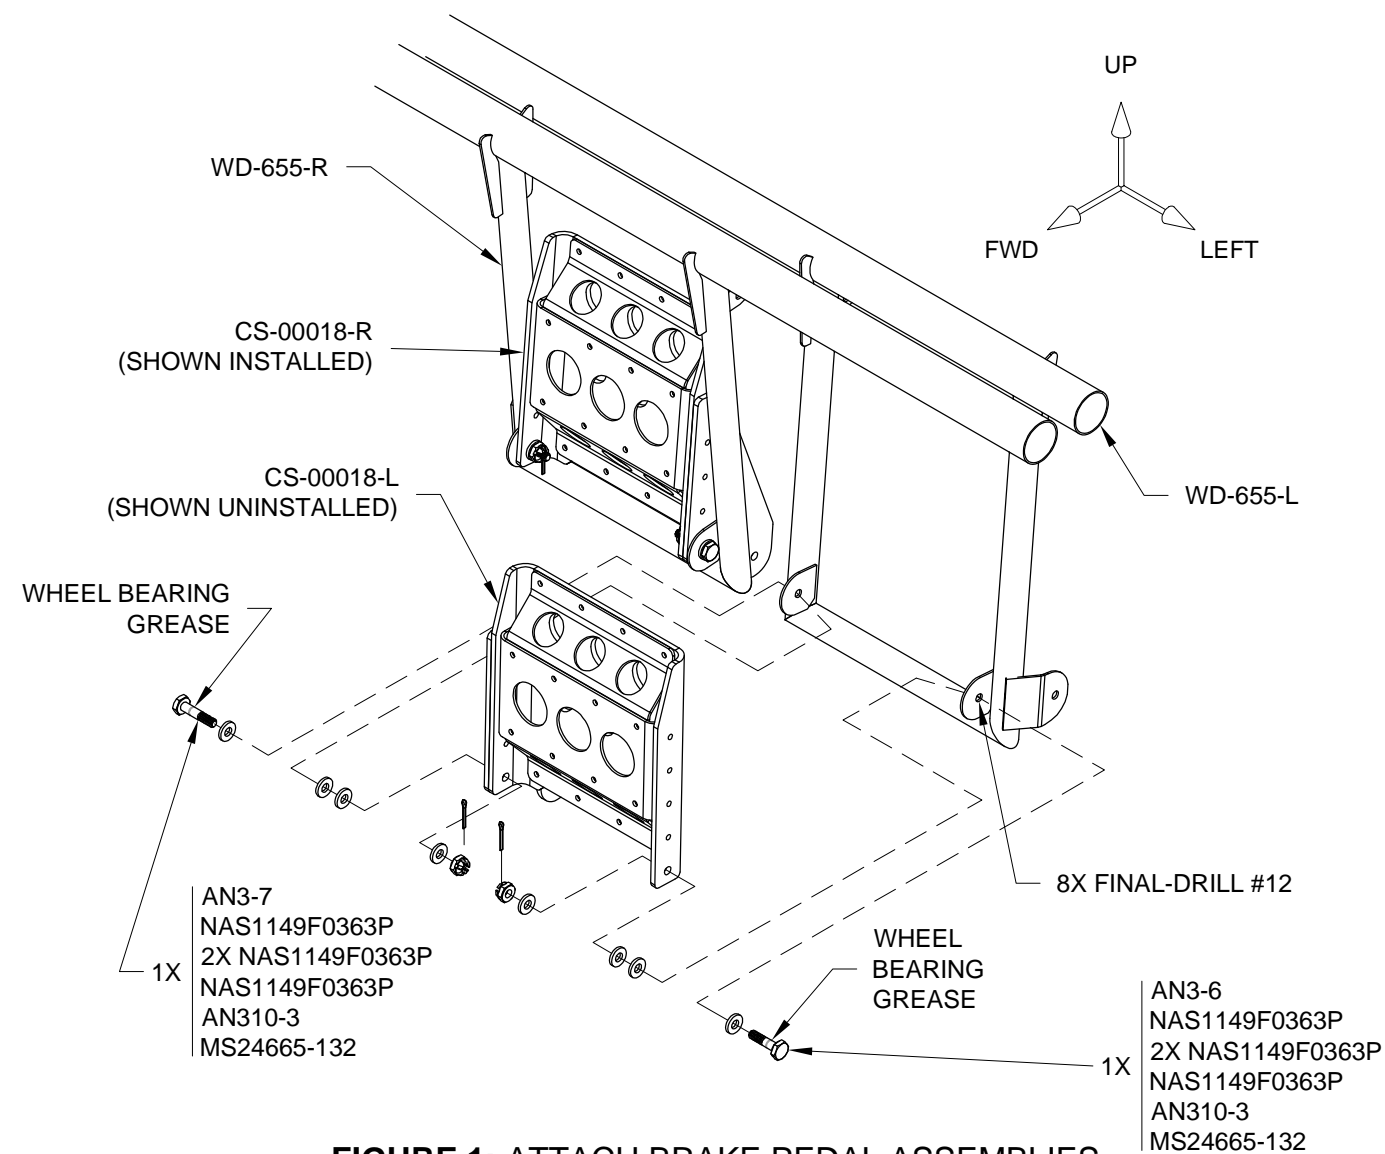

FIGURE 1: ATTACH BRAKE PEDAL ASSEMBLIES
Step 3: Attach the four CS-00018-L & -R Left and Right Brake Pedal Assemblies to the WD-655-L & -R Rudder Pedals as shown in Figure 1.
Due to manufacturing tolerances, it may be necessary to use a different mix of washers than what is shown in Figure 1. If required, use a heavy soft-faced hammer to make slight adjustments to the brake pedal mounting tabs.